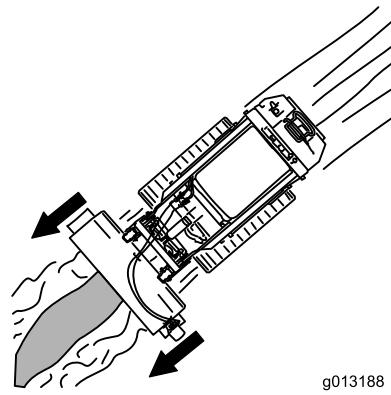

Figure 4
- For best trench filling, center the unit over the trench (Figure 4).